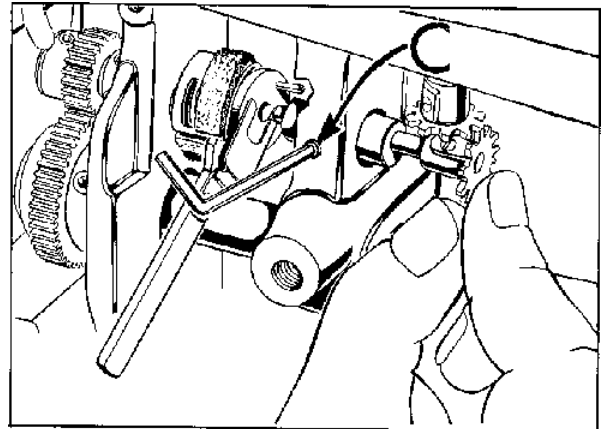

Fig. 25
5. Insert pump disc (F) into assembly tool No. 21227BY, with the stop pin on the spring side of tool, 180° from handle. Insert disc approximately half way into the spring and center in tool (Fig. 25).
7. A clearance cut on the edge of the metering cup, located between the dovetail and the long horizontal slot, has been provided for the pump disc tool and should be facing you (Fig. 25).
9. Press hook oil control shaft bushing (L) to the left until control shaft (D) is approximately 1/16 inch away from pump disc (F). Make sure the control shaft pivot pin (E) seats in the depression at the center of the pump disc. Tighten set screw (C, Fig. 25) and withdraw assembly tool. Be sure sir seal felt (J) has seated against the pump disc.